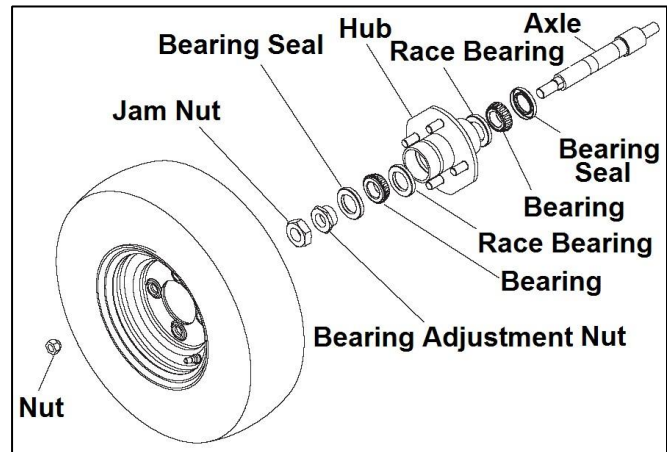

Figure 6-1
2. 3-Wheel Model with suspension fork. See Figure 6-1.
Remove lug nuts and wheel assembly from the hub. Remove the hub components shown in Figure 6-1.
1. 3-Wheel Model with suspension fork. See Figure 6-1. Clean spindle. Apply a thin coating of grease and install hub onto the spindle. Install inner bearing seal and bearing, hub, bearing, bearing seal and adjusting nut. Tighten adjusting nut until resistance is felt when turning the wheel hub, then back off slightly. While holding adjusting nut, install and tighten jamnut. Place wheel assembly on the hub studs. Tighten four lug nuts by hand and wrench until snug using a criss-cross pattern.